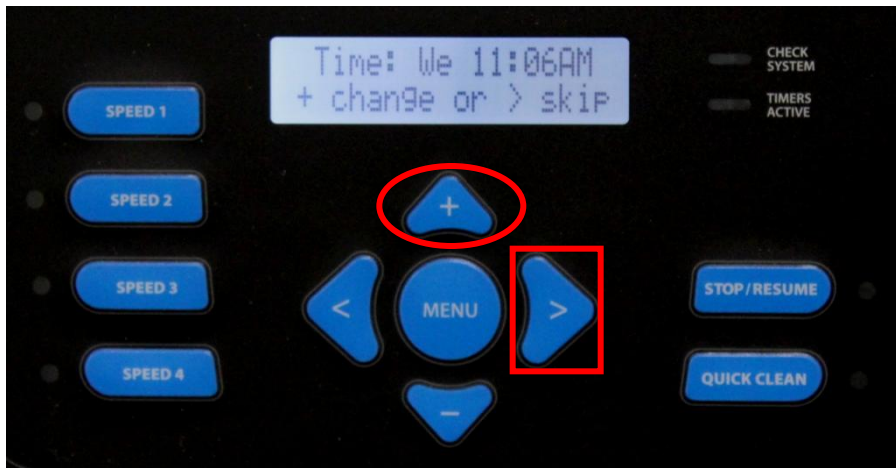

Fig 36
6. This screen allows you to change the day and time by pressing the  button to access or skip by pressing the  button (fig 36).